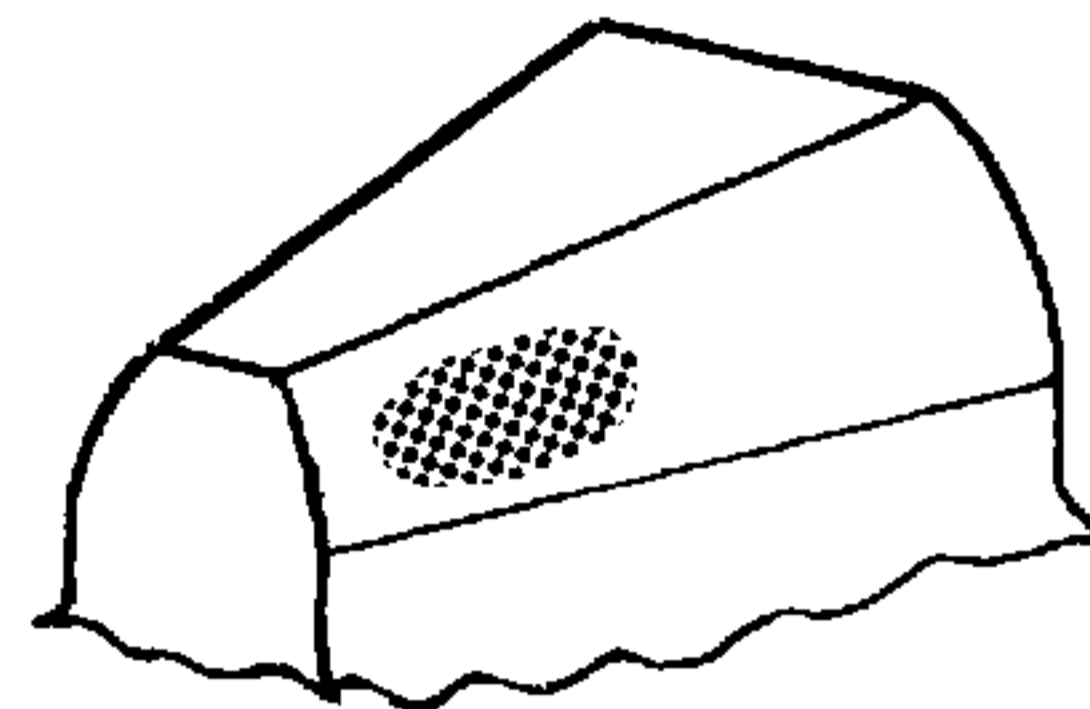
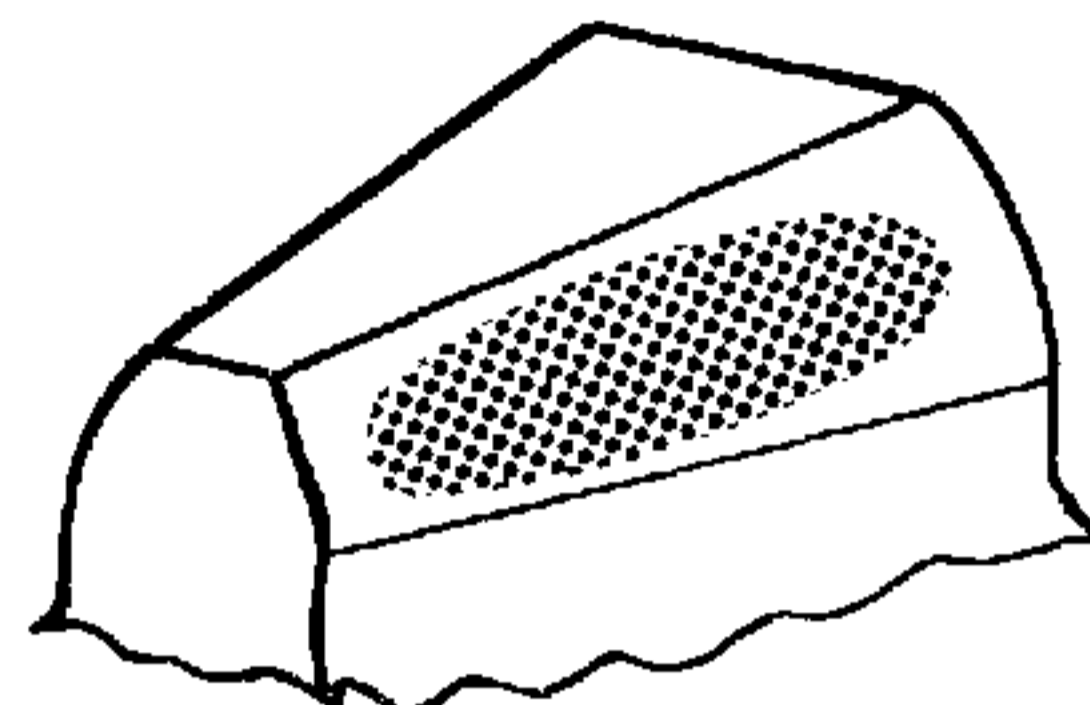

Figure 5-77. Ideal Ring Gear Tooth Contact Pattern.
Figure 5-78. Elongated Ring Gear Tooth Contact Pattern.
- c. Ring gear tooth contact check – brush gear with red oxide or rub on a thin coat of prussian blue. Hand roll testing should produce a pattern as shown in Figure 5-77. In use, when load and deflection increase, the pattern will elongate as shown in Figure 5-78.